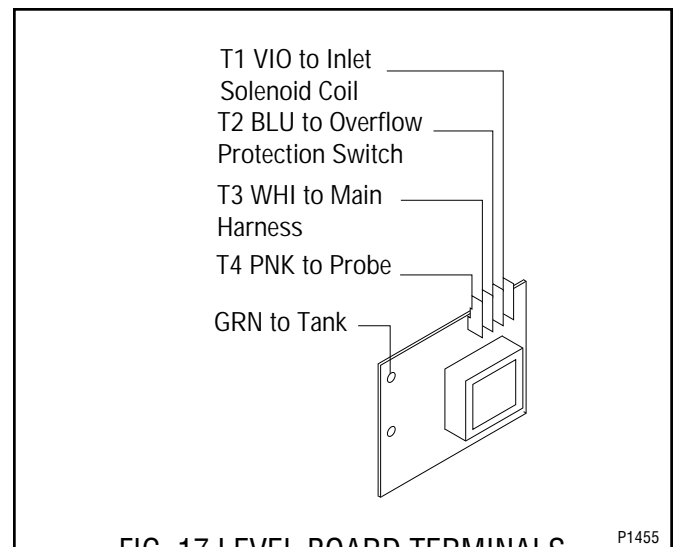

FIG. 17 LEVEL BOARD TERMINALS
4. Refer to Fig. 17 when reconnecting the wires.